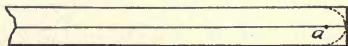

FIG. 105. — LAYING OUT ENDS OF RUNNERS.
4. **Making the runners.** — The runners are made of two pieces of $2'' \times 6'' \times 10' 4''$. The ends are rounded off by drawing an arc of a circle $2''$ in radius, holding the two planks as shown in Fig. 105, placing the point